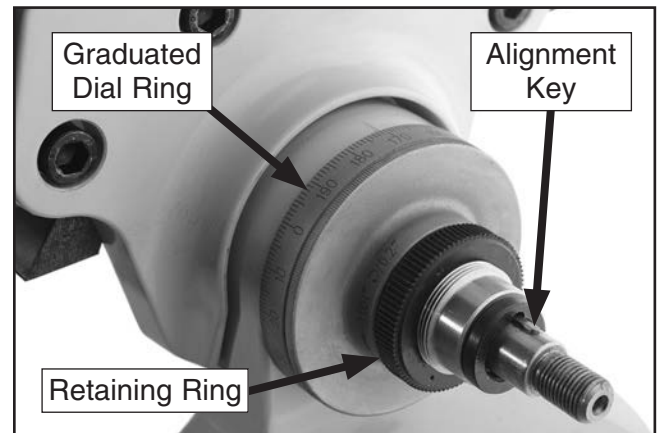

Figure 76. Location of X-axis leadscrew graduated dial and retaining rings.
Tip: Rotate graduated dial ring (see **Figure 76**) by hand until leadscrew alignment key is facing upward, to help prevent losing key in the following steps.
4. Unthread and remove knurled retaining ring and graduated dial ring from end of leadscrew (see **Figure 76**).